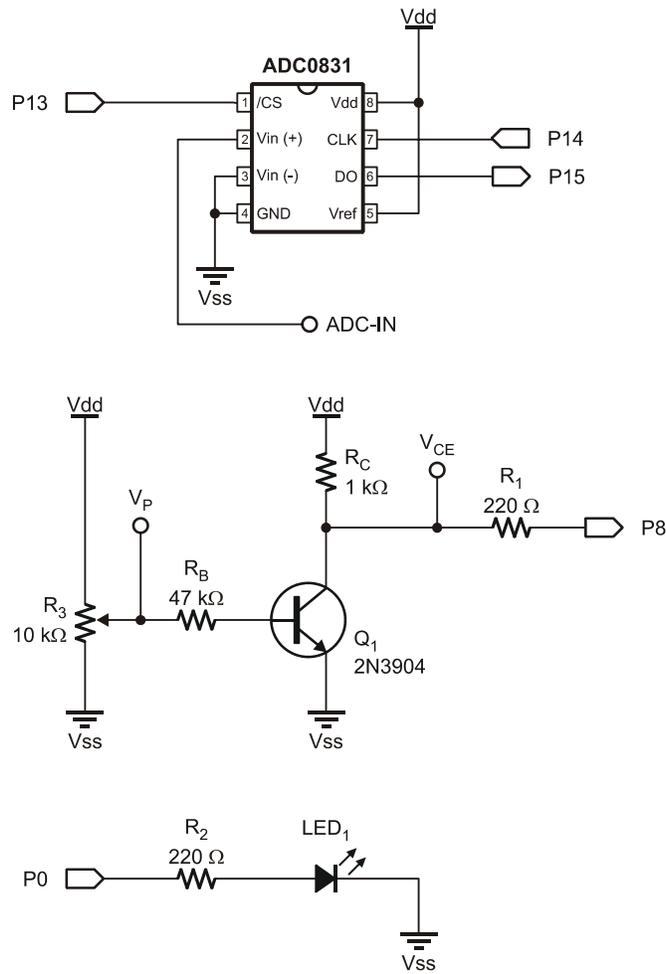
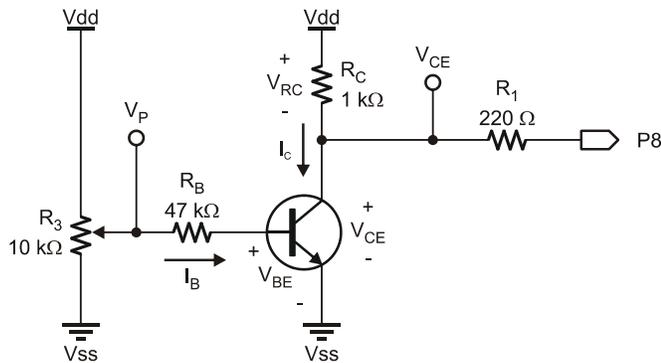

Figure 3-12
Figure 3-13
- (1) LED – Red
- √ Construct the circuit shown in Figure 3-12.
Analyzing what is occurring with reference to Figure 3-13:
(1) Resistor – 10 k Ω
- √ Begin with the circuit from Activity 3, Figure 3-12 with ADC-IN connected to V_{CE} .
Relative to using a 1 k Ω value for R_C (see Figure 3-12 and Figure 3-13), how much movement does it now take to control the transistor over its full active range? Since I_{SAT} is so much smaller, a much lower value of I_B required for saturation is defined, and thus a much lower value of V_P to reach saturation, which means the potentiometer needs to be rotated a smaller amount.